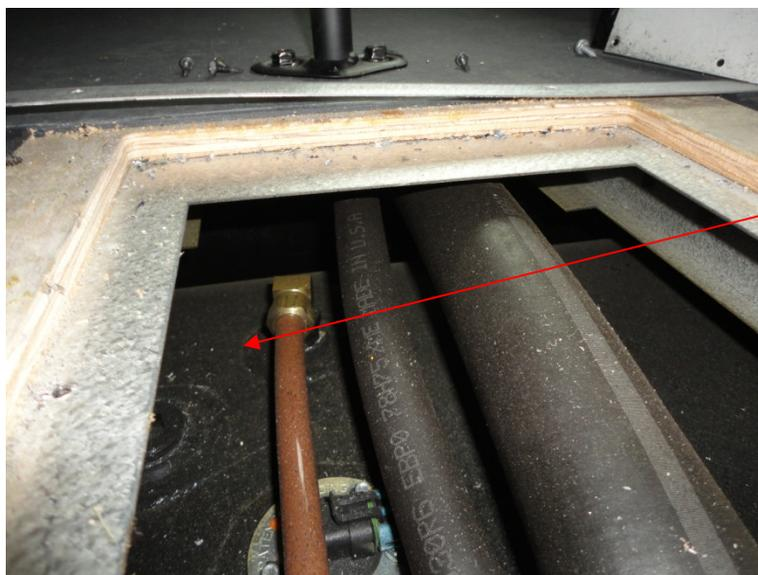

Figure 1
- 3) At this point you should be able to see the fuel hose that draws fuel from tank to the engine. See Figure 1.